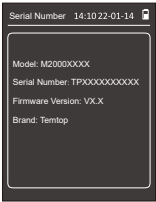

fig.27
2. Serial Number: View information about the product (fig.27).